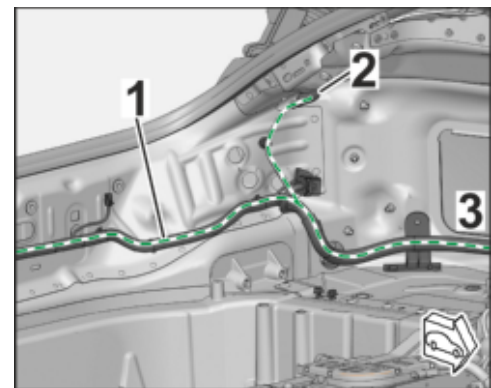

Figure 10 (similar)
2.2.1 Tail light area, left (see also wiring diagram 13 – Tail lights) ⇒ *Figure 10 (similar)*
- Repeat Step 2.1.1 for the left tail light. ⇒ *Figure 10 (similar) -2-*